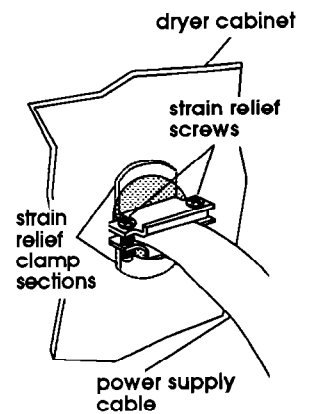

Figure 19
3. Assemble 3/4" U.L.-listed strain relief (U.L. marking on strain relief) into the hole below terminal block opening. Tighten strain relief screws just enough to hold the two clamp sections together. Install copper power supply cord or cable through strain relief (Figure 19).